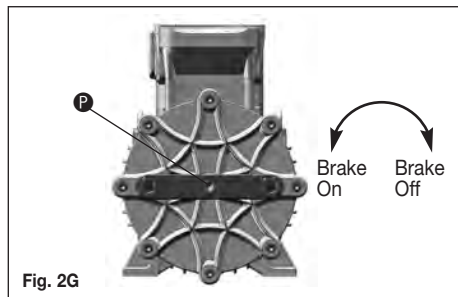
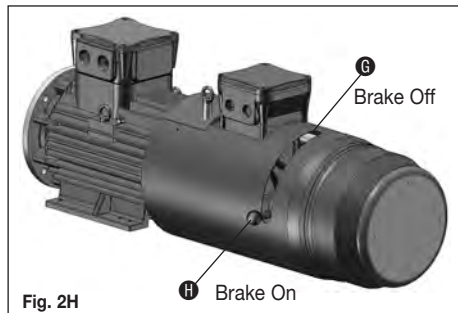

Fig. 2G
Fig. 2H
Turning the screw  clockwise about 45° releases the motor shaft (figure 2G). Turn in the opposite direction to reset the brake. In non-ventilated motors, the release spanner is not included with the motor (spanners are widely available on the market). If the motor is servo-ventilated (figure 2H), insert the specific release lever (provided with the motor) into the lower part of the slot on the fan cover. Then push towards the Brake Off position . Turn in the opposite direction to reset the brake, Brake On position .
**Warning:** before restarting the machine, make sure that the brake is in the Brake On position (figure 2H).